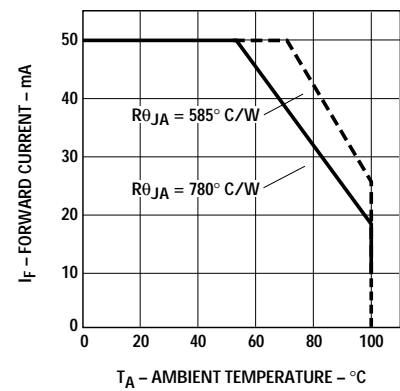

Figure 4. Maximum forward current vs. ambient temperature. Derating based on  $T_{JMAX} = 130^{\circ}\text{C}$ .
1. Derate linearly as shown in Figure 4.